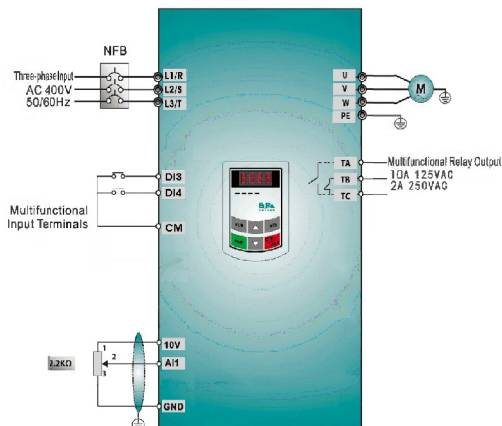

Figure 4-3 Wiring Diagram 3
- (1) Connect the wires in accordance with Figure 4-3. After having checked the wiring successfully, switch on the air switch, and power on the inverter. Note: 2K ~ 5K potentiometer may be adopted for setting external analog signals. For the cases with higher requirements for precision, please adopt precise multiturn potentiometer, and adopt shielded wire for the wire connection, with near end of the shielding layer grounded reliably.